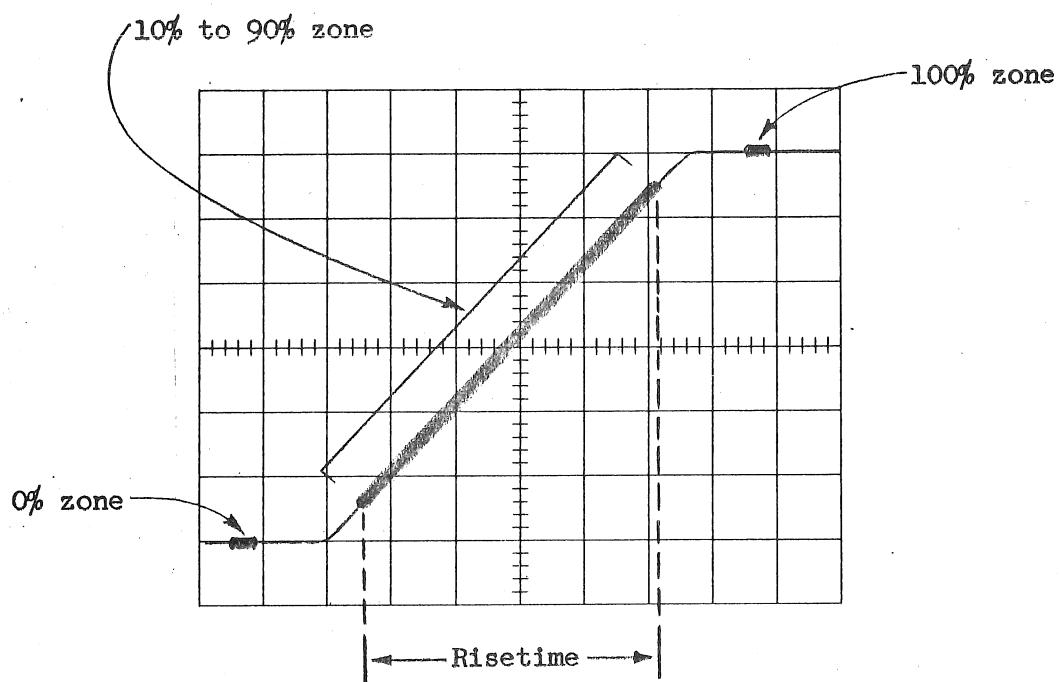

Fig. 2-2. Risetime measurement.
4. Read the risetime directly from the readout. This is the risetime of the pulse (see Fig. 2-2).